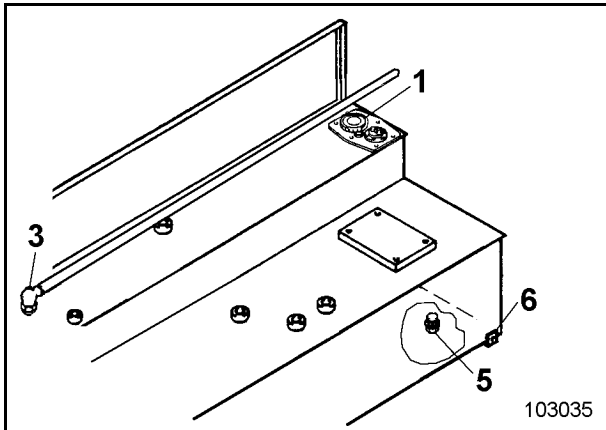

Fig. 3-47:
- Fill in fuel through the strainer in filler tube (1, Fig. 3-47:)